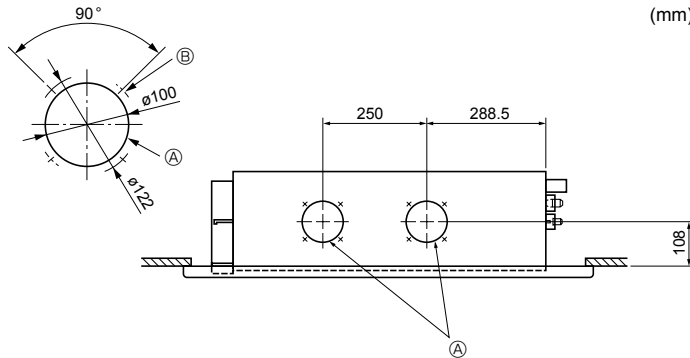

Fig. 2-10
- (mm) **2.5. Fresh air intake hole (Fig. 2-10)**